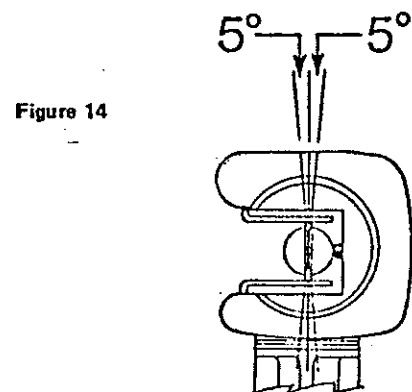

Figure 14
4. When the operating arm at the base of the rotating insulator is against the closed position stop, the blade tip should be vertical in the jaw contacts. (Figure 14) -- If necessary, run the closed position stop in or out to achieve proper contact. These switches will have adequate contact pressure if the blade tip is as much as five degrees off vertical; however, every attempt should be made to get the tip as nearly perpendicular in the contacts as possible.